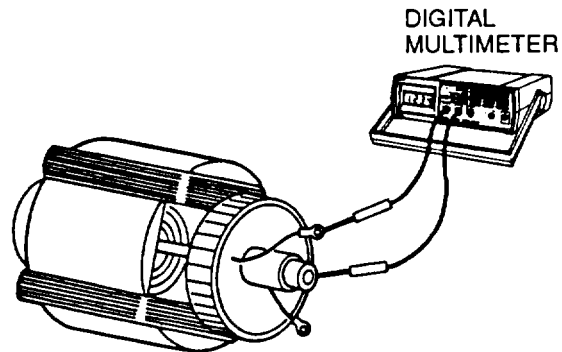

FIGURE 4-21. Testing Rotor for Grounds
- h. Connect multimeter leads between F1+ and rotor shaft and between F2- and rotor shaft inturn (FIGURE 4-21). Multimeter should not register.